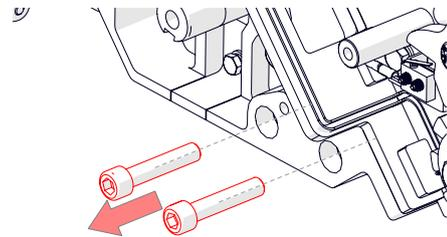

Fig. 16I - Remove the LH 2 x shear blade bolts
9. Support the shear blade carrier and remove the 2 x M10 cap head bolts of the left hand shear blade carrier [8 mm hex key] (Fig. 16I). Lower that side to the floor gently.